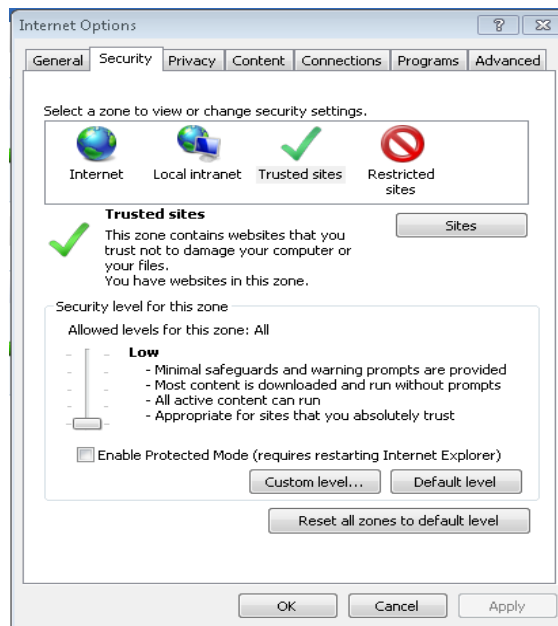
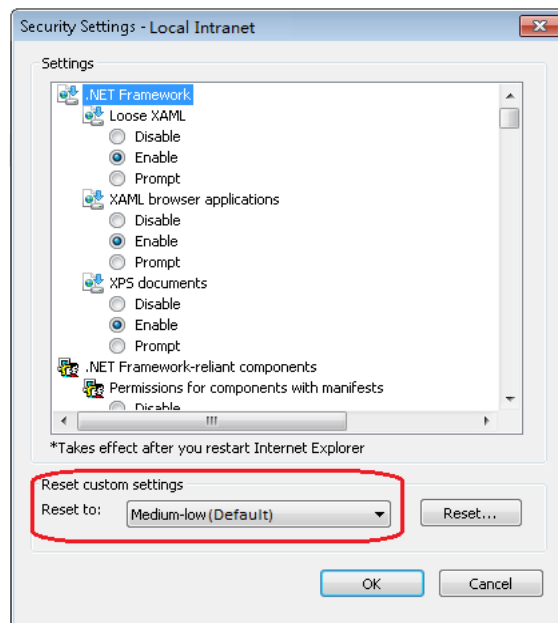

Figure 3-4 Security setting 1
Figure 3-5 Security setting 2
1. Double-click the icon of IE to run the software, click the menus of **Tools -> Internet Options** and then choose the **Security** tab to pop up the window shown in Figure 3-4.
2. In the window shown in Figure 3-4, choose **Local intranet** and click the **Custom level** button to pop up the window shown in Figure 3-5.
3. In the window shown in Figure 3-5, set 'Medium-low' for the security level. Click the **Reset** button to finish Reset custom settings, at last, click **OK**.